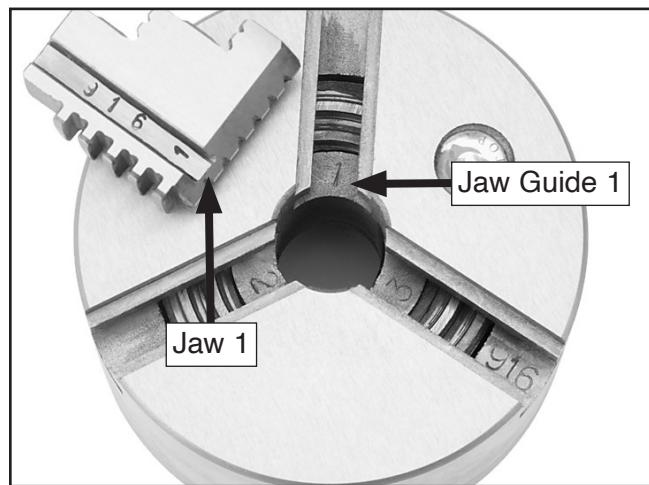

Figure 18. Jaw and jaw guide stamped with corresponding numbers.
- Examine the sides of the jaws—each is stamped with a number 1 through 3. Examine the jaw guides of the chuck—each is stamped with a corresponding number (see **Figure 18**)